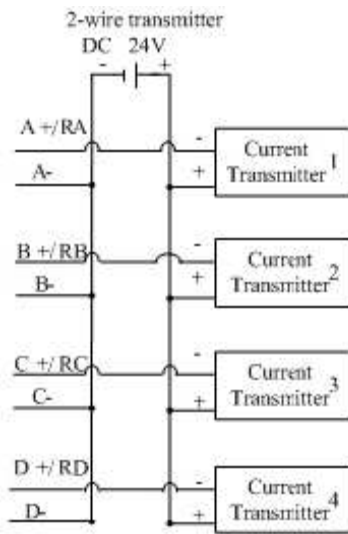
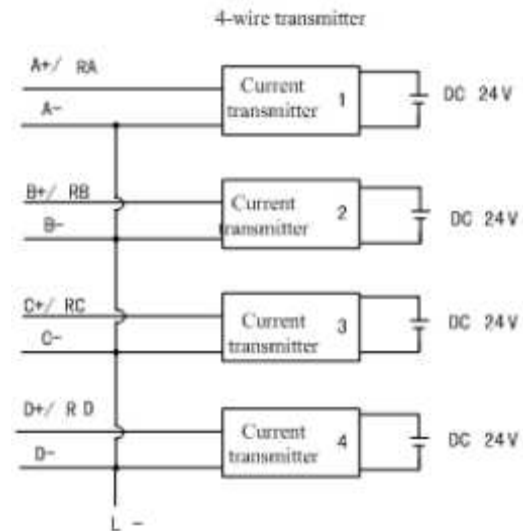

Figure3-2-12 2-wire current transmitter wiring
Figure3-2-13 4-wire current transmitter wiring
- Figure3-2-12 and Figure 3-2-13 are wiring with 2-wire and 4-wire current transmitter. 2-wire current transmitter adopts external power supply, user can choose to use 24VDC output power of CPU module according to power capacity demand, or connect other external power.